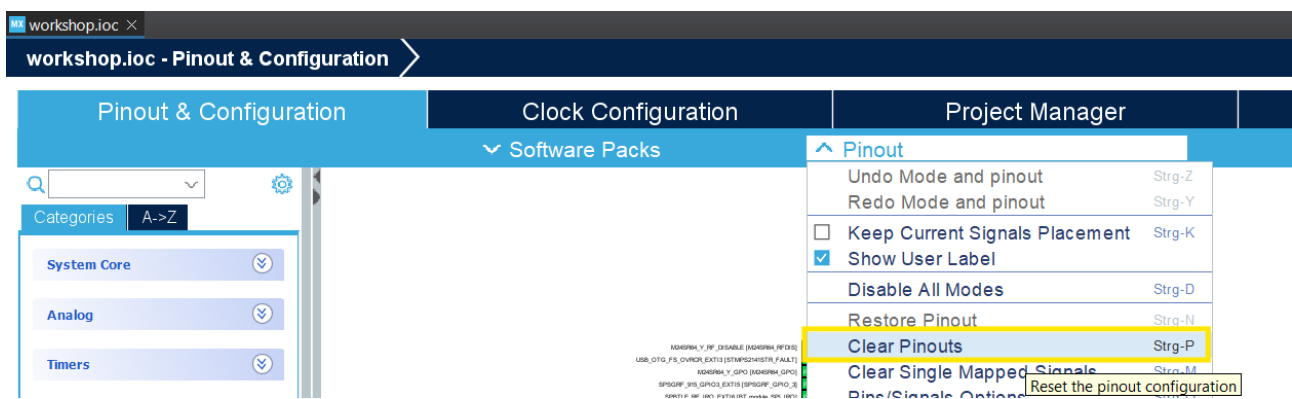
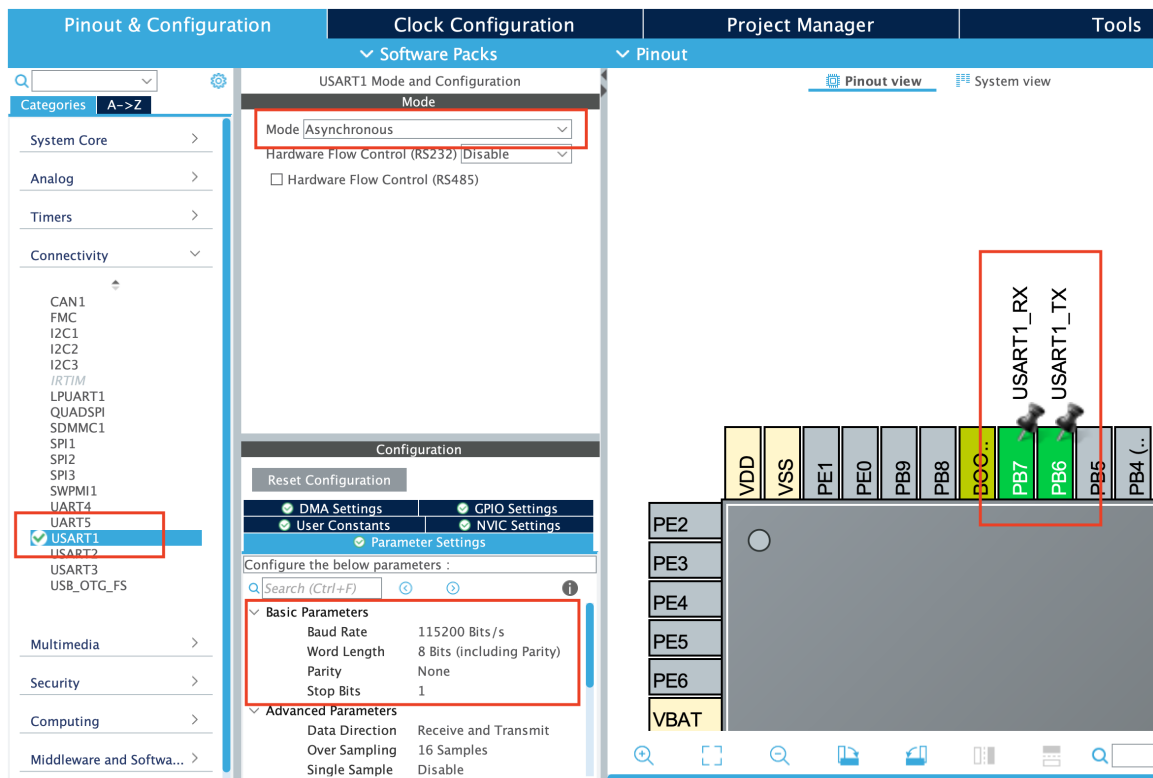

Figure 5: Clear Pinout Assignments.
Figure 6: Setting up the UART1 on the MCU.
3. Make sure the pins PB7, PB6 and PB5 are assigned to RX, TX and CK respectively, as shown in Figure 6. Make sure to clear the pinout assignments beforehand (Figure 5).